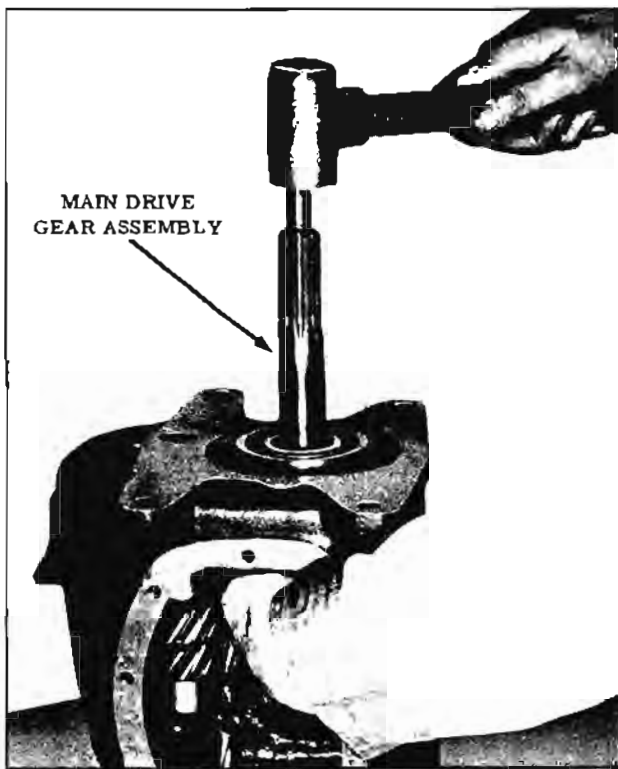

Fig. 11-222 Main Drive Gear Assembly Removal
3. With a lead or bronze hammer, tap the main drive gear assembly through the bearing and into the case as shown. (Fig. 11-222)